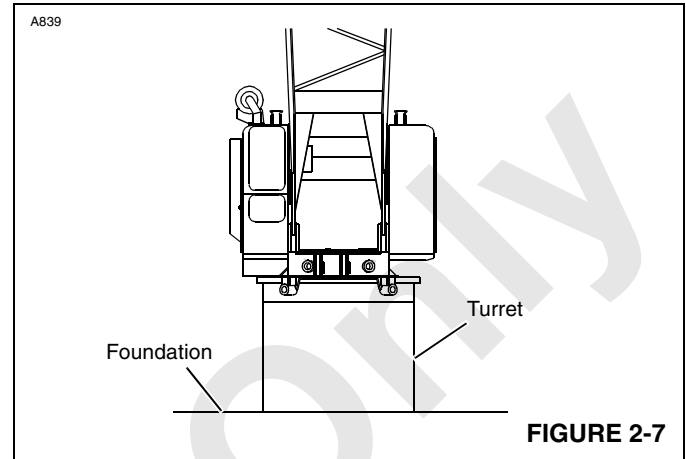

FIGURE 2-7
1. Crane rotating bed mounted on a turret (pedestal) which is securely fastened to foundation (Figure 2-7).